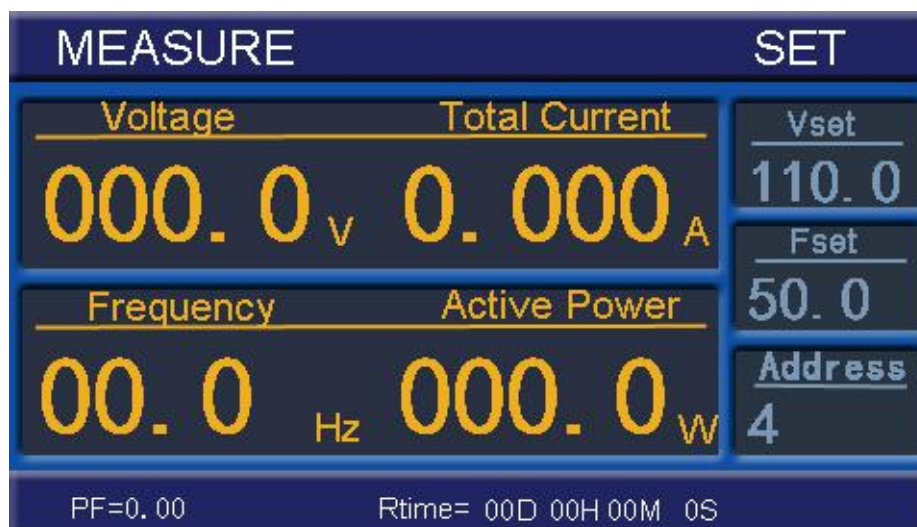

Fig.6 Power Setting state
5. 1. 2. 2 Press Setting key **Pro** to enter into setting state (as shown in Fig.6), set the Postal address , upward & downward fluctuation parameters via pressing the Increase key and Decrease key. After the parameter setting is finished, pressing the **STOP** key can return to standby state again.